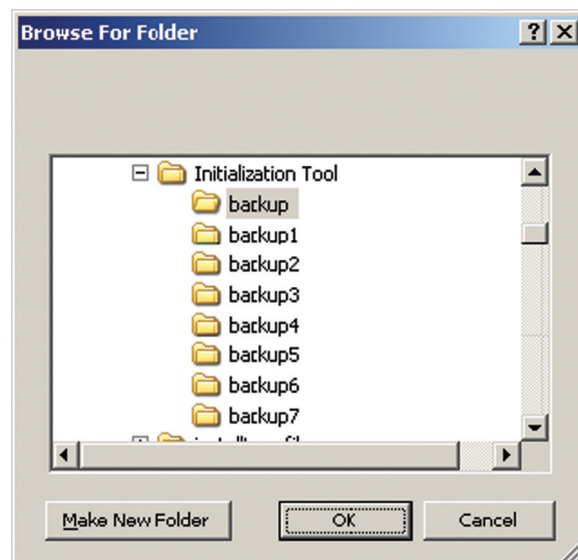

Fig.125 [Browse For Folder] screen
- 5 Specify a backup folder. (Fig.125)